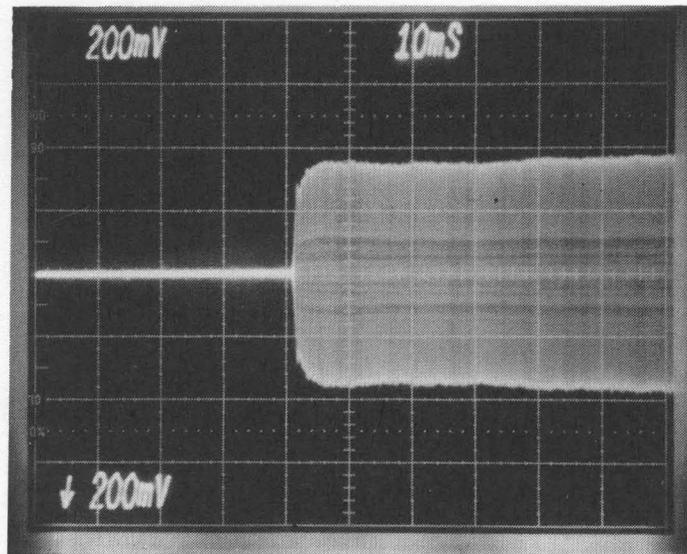

FIGURE 37. HEAD LOAD TIMING
- (1) Sync oscilloscope on TP 11 (+ Head Load). Set time base to 10 msec/division. Connect one probe to TP1 and the other to TP2. Ground the probes on TP5. Set the inputs to AC couple, add and invert one input. Set the vertical deflection to 200 mv/division.
- (2) Select the side 1 head, energize the head load solenoid and observe the read signal on the oscilloscope. The read signal should begin between 35 and 45 msec (see Figure 37).